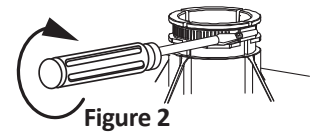

Figure 2
2. Use a screwdriver to tighten the clamp. (Figure 2)